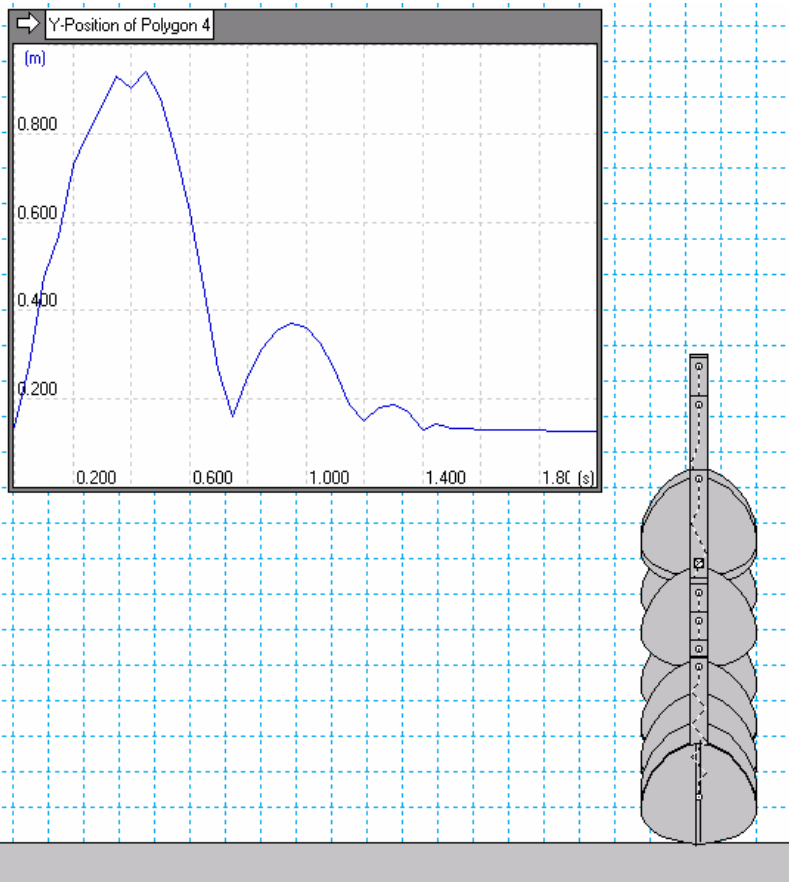

Figure 25. Simulation result.
8. Add any necessary charts. In this case, we will generate a plot of body height body height. Select the body and under the *Measure* menu, select *Position*, and then *Y-Graph*. See Figure 25.
9. Run the simulation! See Figure 25.